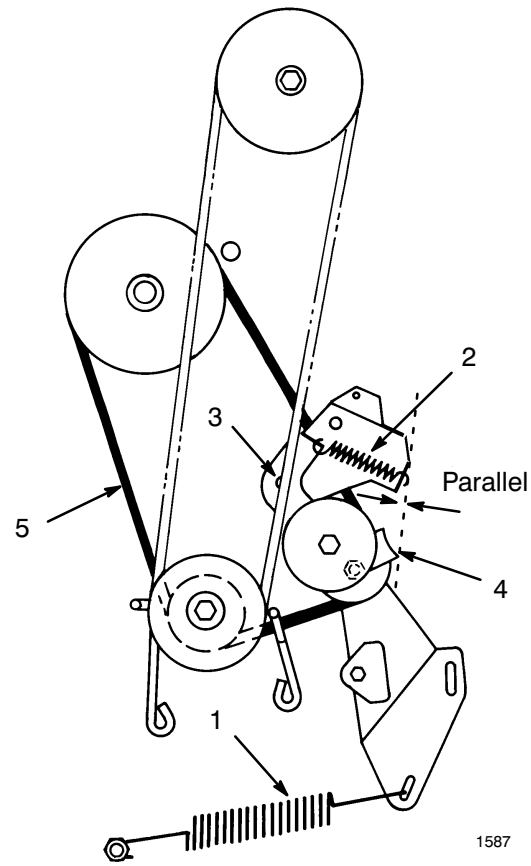

Figure 21
7. Unhook large traction spring from mounting screw (Fig. 21). Use caution when removing spring as it is heavily tensioned.
8. Unhook idler spring from idler bracket (Fig. 21).
9. Remove locknut and washer securing idler bracket to frame and remove bracket (Fig. 21).
10. Loosen the locknut on pulley until belt guide can be removed (Fig. 21). Remove belt from all pulleys.
Note: When reinstalling belt guide to idler pulley, make sure edge of belt guide is parallel to the frame as shown in Figure 21.